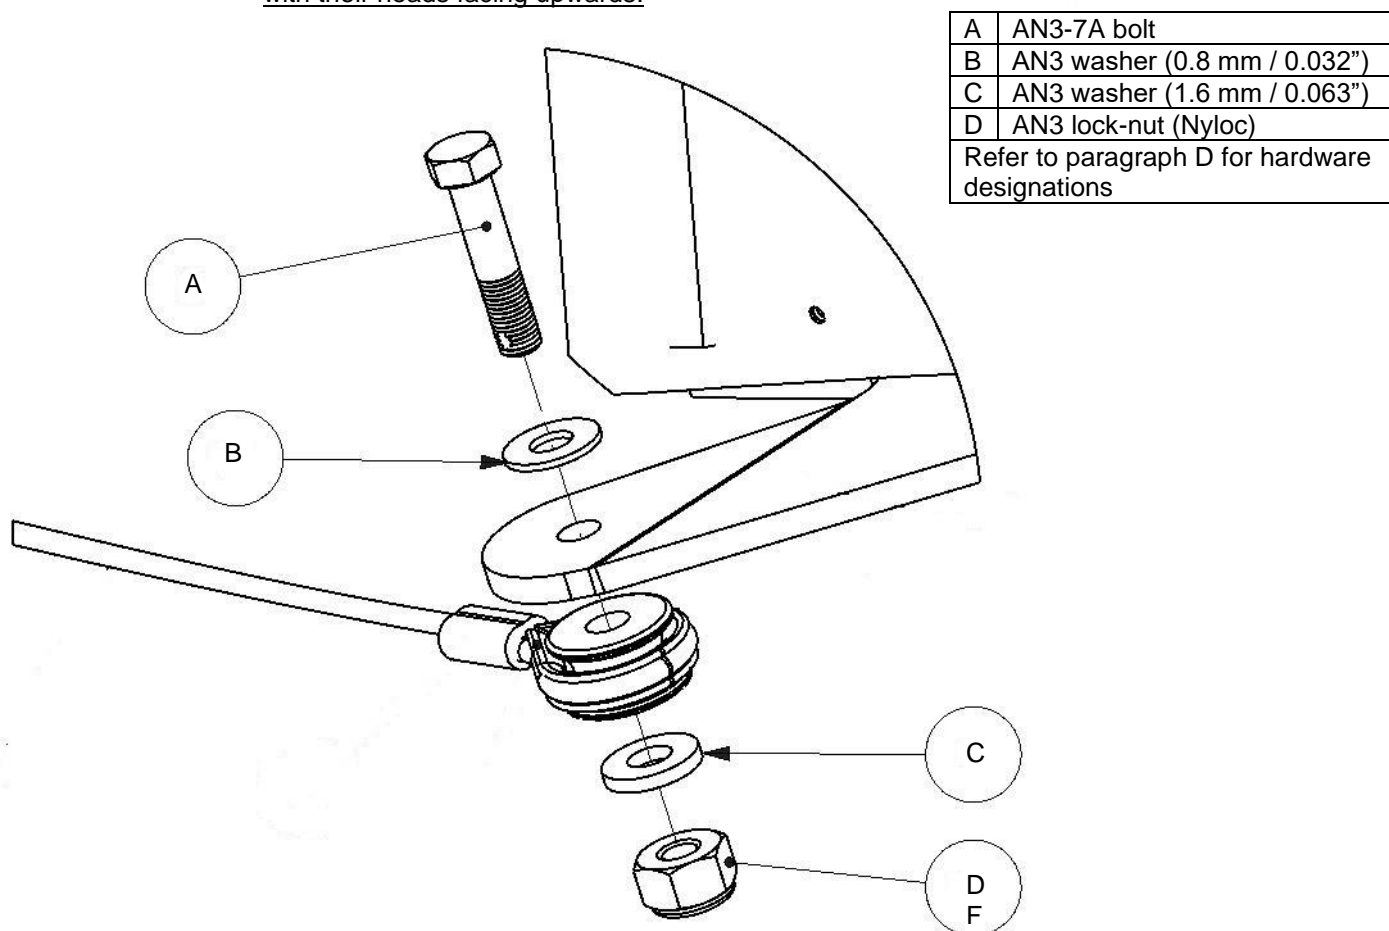

Figure 38: Rudder cable connection.
- Tighten the lock-nuts on the bolts attaching the rudder cables sufficiently, observe the correct placement of washers (refer to Figure 38) and note that the bolts are installed with their heads facing upwards.